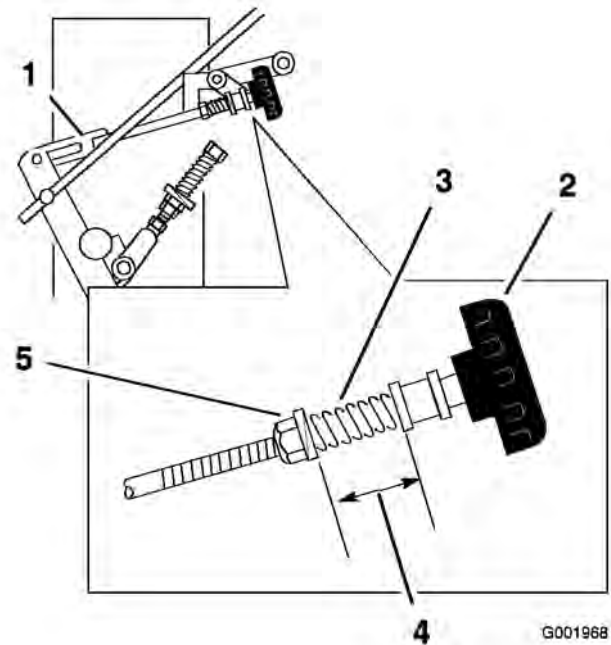
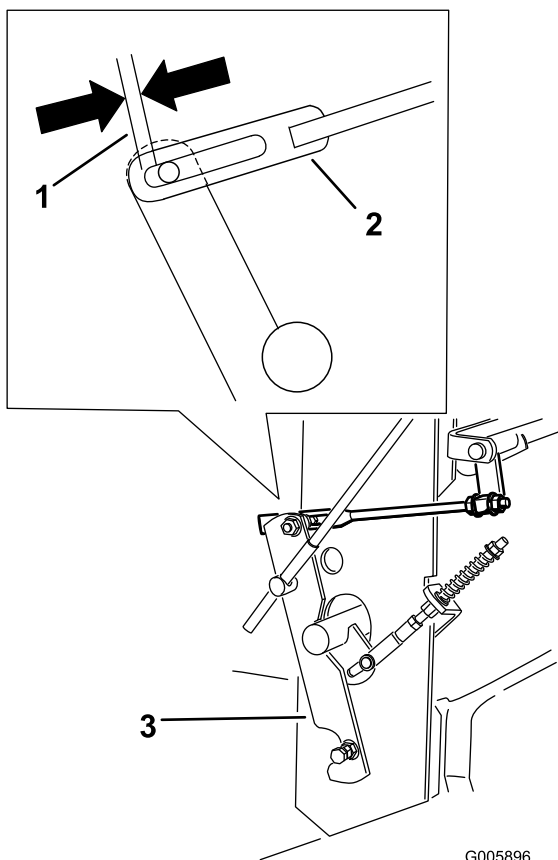

Figure 50
Figure 51
4. Adjust the right side linkage by turning the quick track knob counterclockwise until the tire begins to rotate forward (Figure 50).
5. Turn the knob clockwise a 1/4 of a turn at a time. Then move the speed control forward and back to neutral. Repeat this until right wheel stops rotating forward (Figure 50).
6. The spring that keeps tension on the knob should normally not need adjustment. However if an adjustment is needed, adjust the length of spring to 1 inch (26 mm) between the washers (Figure 50).
7. Adjust the spring length by turning the nut at the front of spring (Figure 50).
2. Measure the gap as shown in Figure 51 for both the left and right sides. No adjustment is needed if they are equal.
3. If needed, adjust the right side linkage by turning the quick track knob until the gap in Figure 51 matches the left side (Figure 50).
4. If needed, adjust the left side linkage by adjusting the front and back swivel nuts until the gap in Figure 51 matches the right side (Figure 48).